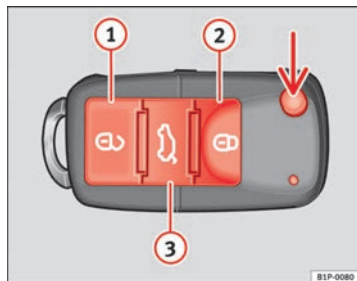

Fig. 46 Assignment of buttons on the remote control key
Using the button  fig. 46 (arrow) on the control, the key blade is released.
Unlocking the vehicle   fig. 46 ①.
Locking the vehicle   fig. 46 ②.
Unlocking the tailgate. Press button   fig. 46 ③ until all the turn signals on the vehicle flash briefly. When the unlocking button   ③ is pressed, you have 2 minutes to open the door. Once this time has passed, it will lock again.
- Press the  button  ⇒ fig. 46 on the remote control.